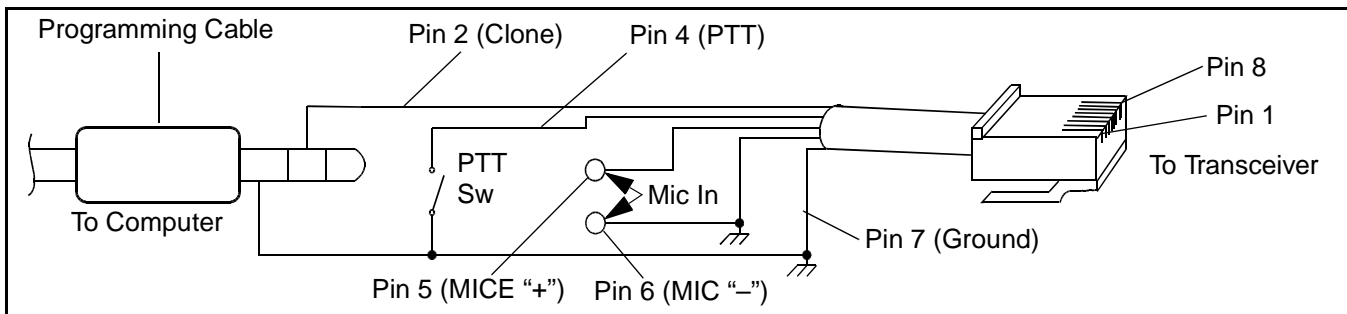

Figure 6-3 Test Cable Schematic
The test cable shown Figure 6-3 in must be fabricated to perform transceiver alignment. This cable is used in place of the adapter cable shown in Figure 4-1. It is required because in addition to connecting the computer to the microphone jack, a transmit audio and keying (PTT) signal must be applied to that jack. If desired, Replication Cable, Part No. 597-2002-200, can be modified to provide the 8-pin modular-style connector required for this test cable.
1. Connect an audio generator to the microphone audio input of the test cable (pin 5 shown in Figure 6-3). Set the generator output for 1 kHz at 40 mV rms.